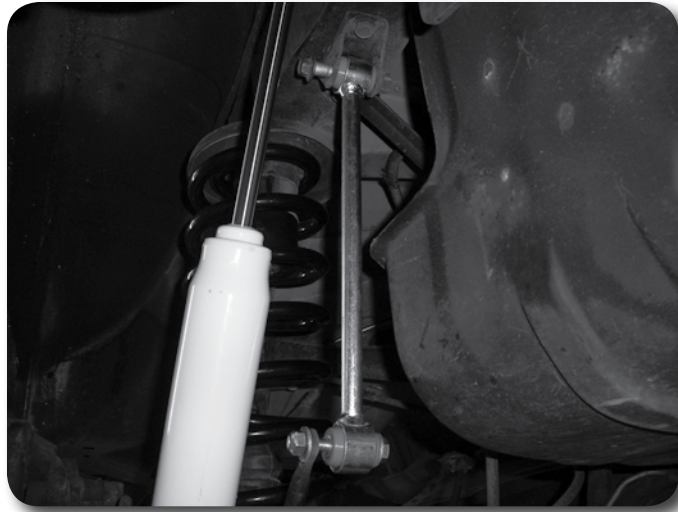

Figure 19
15. Locate the new rear sway bar links with pre-installed bushings. Install a 0.625 x 0.109 x 1.375 (small ID) sleeve in one end and a 0.625 x 0.075 x 1.375 (large ID) sleeve in the other end of each sway bar link. Attach the end of the links with the large ID sleeves to the frame mounts with the factory hardware. Attach the end of the links with the small ID sleeves to the sway bar with the provided 10mm x 65mm bolts, nuts and washers. **Figure 19** Torque the upper bolts to 55 ft and the lower bolts to 35 ft-lbs.